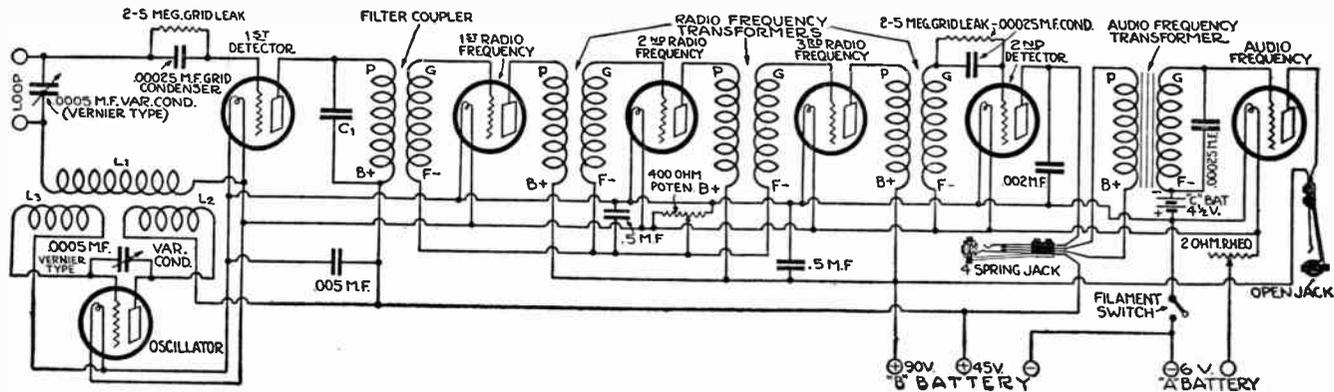

Figure 3
We will now take up the oscillator tube, coupler and condenser. It is usual for the manufacturers of super kits to enclose a diagram showing the proper connections for the oscillator coupler, and every builder will probably have such a diagram. The coupler shown was made from a 180 degree variocoupler on which the outer tube is 3 1/2 inches in diameter, wound with two separate coils of number 24 silk covered wire. One winding contains 18 turns and the end nearest the edge is connected to grid (G) binding post of tube socket 1 and the stator (fixed) plates of the variable condenser at the left end of panel. This is inductance L-3 in the wiring diagram Figure 3. The end in the middle of the tube is connected to the right front binding post of socket 1 (the lower filament bus). The 8-turn coil is wound beside the 18-turn coil. Since all couplers are not provided with a 3 1/2-inch stator, the following deviations may be necessary: